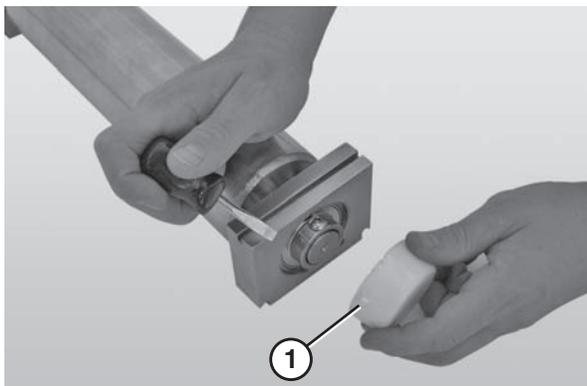

Figure 100
2. Remove the bearing cover (**Figure 100, item 1**).